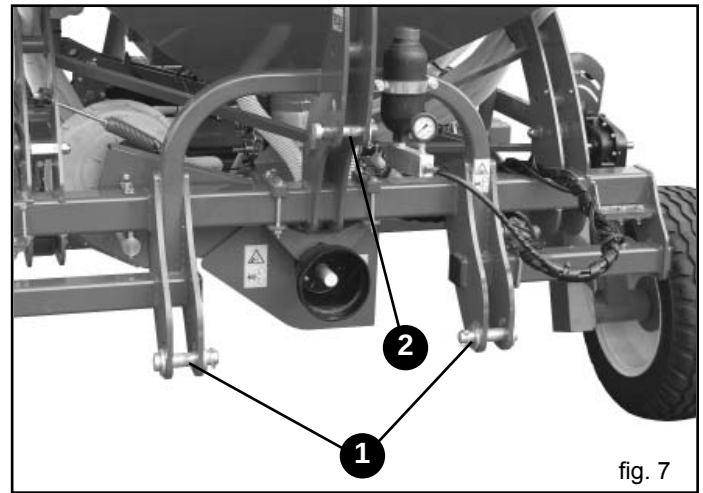
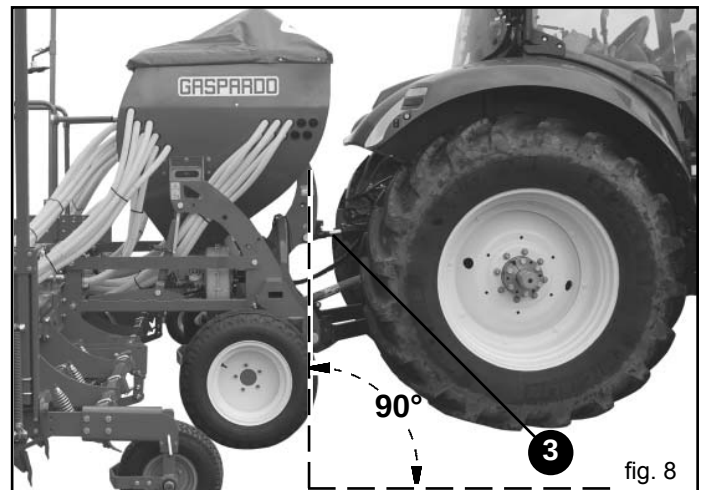

fig. 7
fig. 8
- 1) Hook the lifter bars onto the pins provided (1, Fig. 7) Block with the snap split pins. Hook the chains to the lifting bars
- 2) Connect the third upper point (2, Fig. 7); the pin will be blocked with the appropriate split pin; use the adjusting tierod (3, Fig. 8) to keep the seeder perpendicular to the ground (Fig. 8)